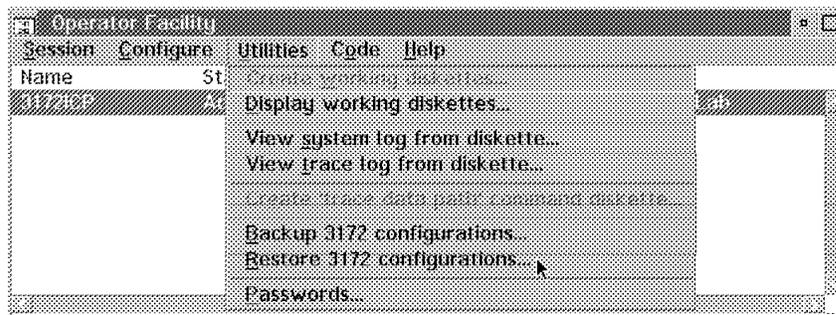

Figure 193. Restore 3172 Configurations
Step 1. Select **Utilities** from the action bar as shown in Figure 193.